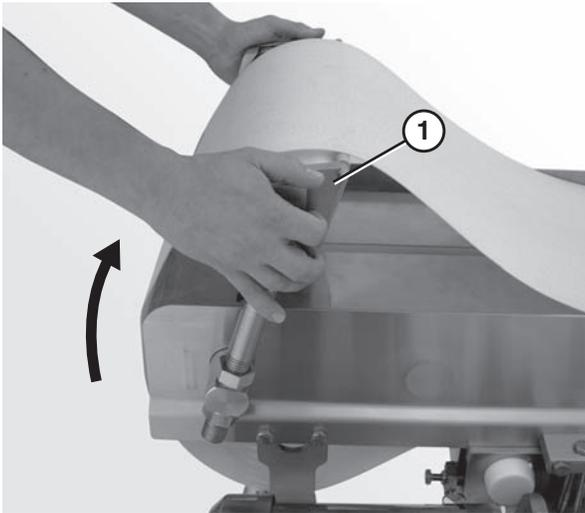

Figure 57
1. Place the idler tail (Figure 57, item 1) in the up position.